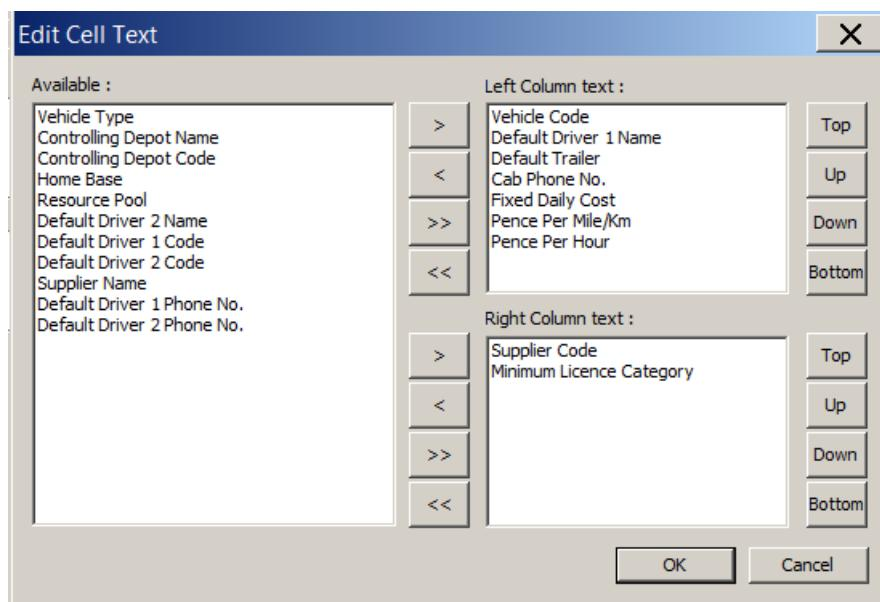

Figure 187
4. Click on the **Text** from the available section on the left (Figure 187)